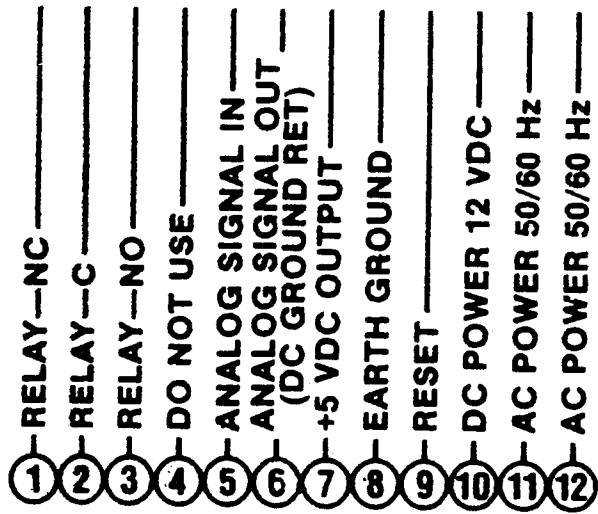

Figure 2-2. Wiring Connections for DP-64
2.3 WIRING CONNECTIONS (Refer to Figure 2-2)
The DP-64 can be wired for either 110 Vac or 12 Vdc operation. Refer to Figure 2-2 for appropriate connections.